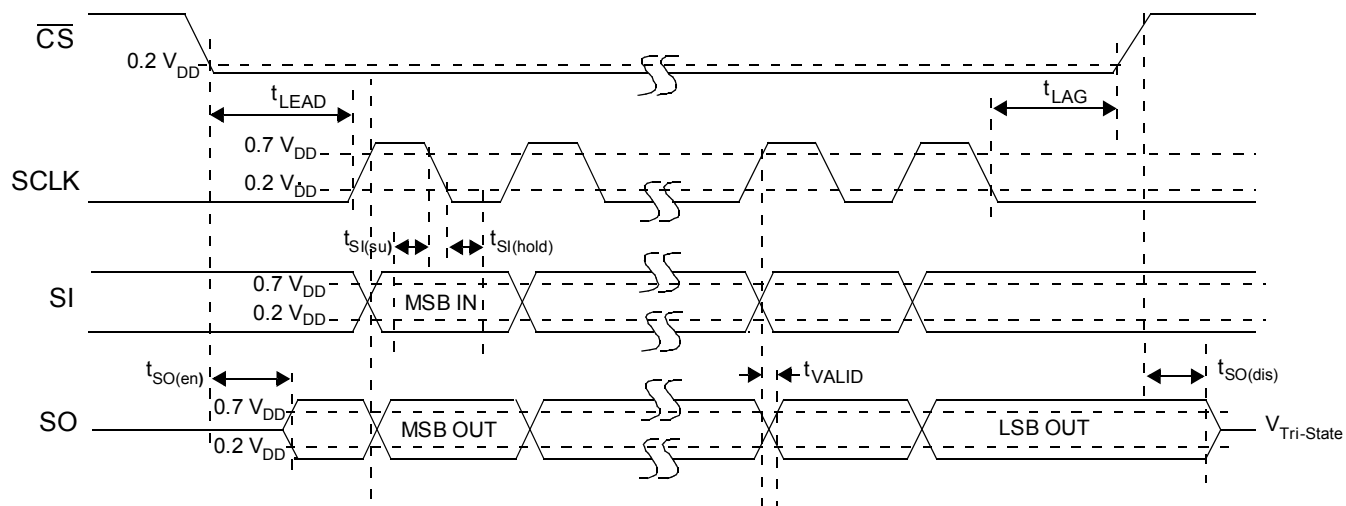

Figure 4. SPI Timing Characteristics
The Serial Input (SI) pin is used to enter one of seven serial instructions into the 33996. SI SPI bits are latched into the Input Shift register on each falling edge of SCLK. The Shift register is full after 24 bits of information are entered. The 33996 operates on the command word on the rising edge of $\overline{CS}$. To preserve data integrity, exercise care not to transition SI as SCLK transitions from high to low state (see Figure 4, page 8).